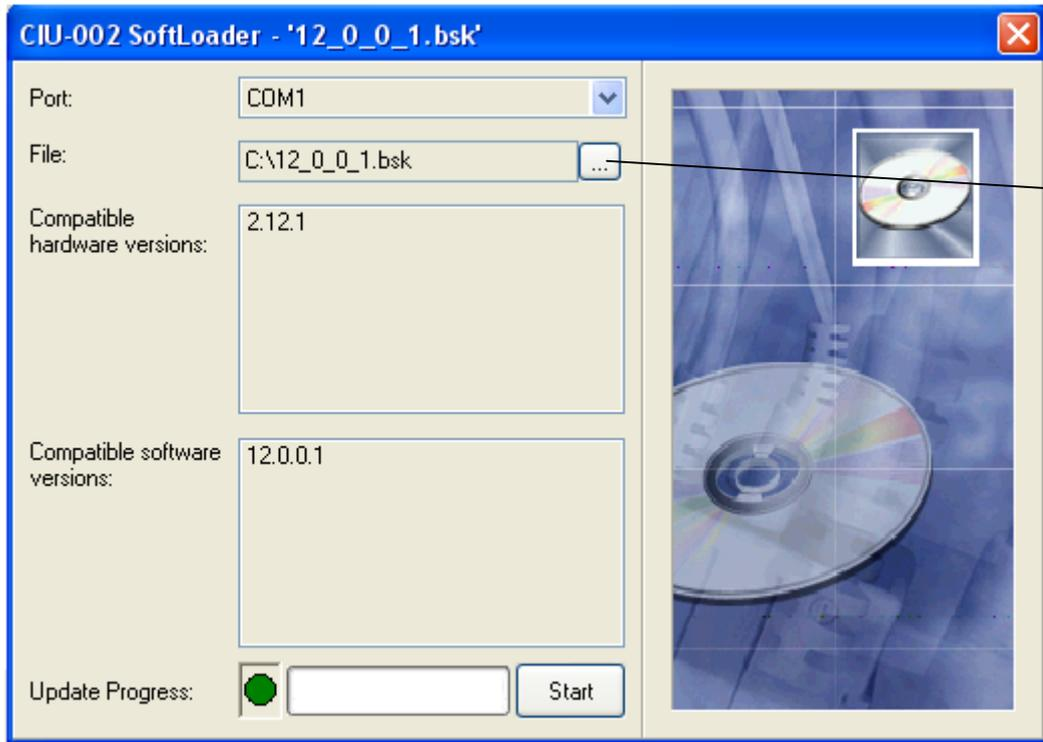

Figure 3.19
- d) start **CIU002_SoftLoader** on your PC (see Figure 3.19). Select COM port of PC, which connects it to your CIU-003;
- e) select the file with new version of CIU-003 firmware by clicking button for file opening (index 1 in Figure 3.19). Find the required file in the standard file selection dialog and click **OK**;